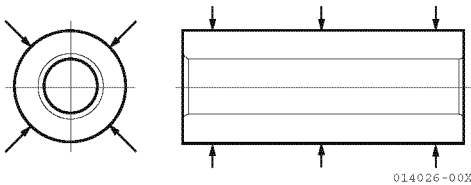

Figure 6-76
7. Measure the outside diameter of the wrist pin in three places and at 90° (**Figure 6-76**). See *Piston* on page 6-10 for specifications. Record the measurements.